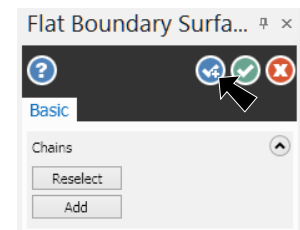

Fig. 20
Step 6. In Flat Boundary Surface function panel press ENTER or click **OK and Create New Operation**, **Fig. 20**.